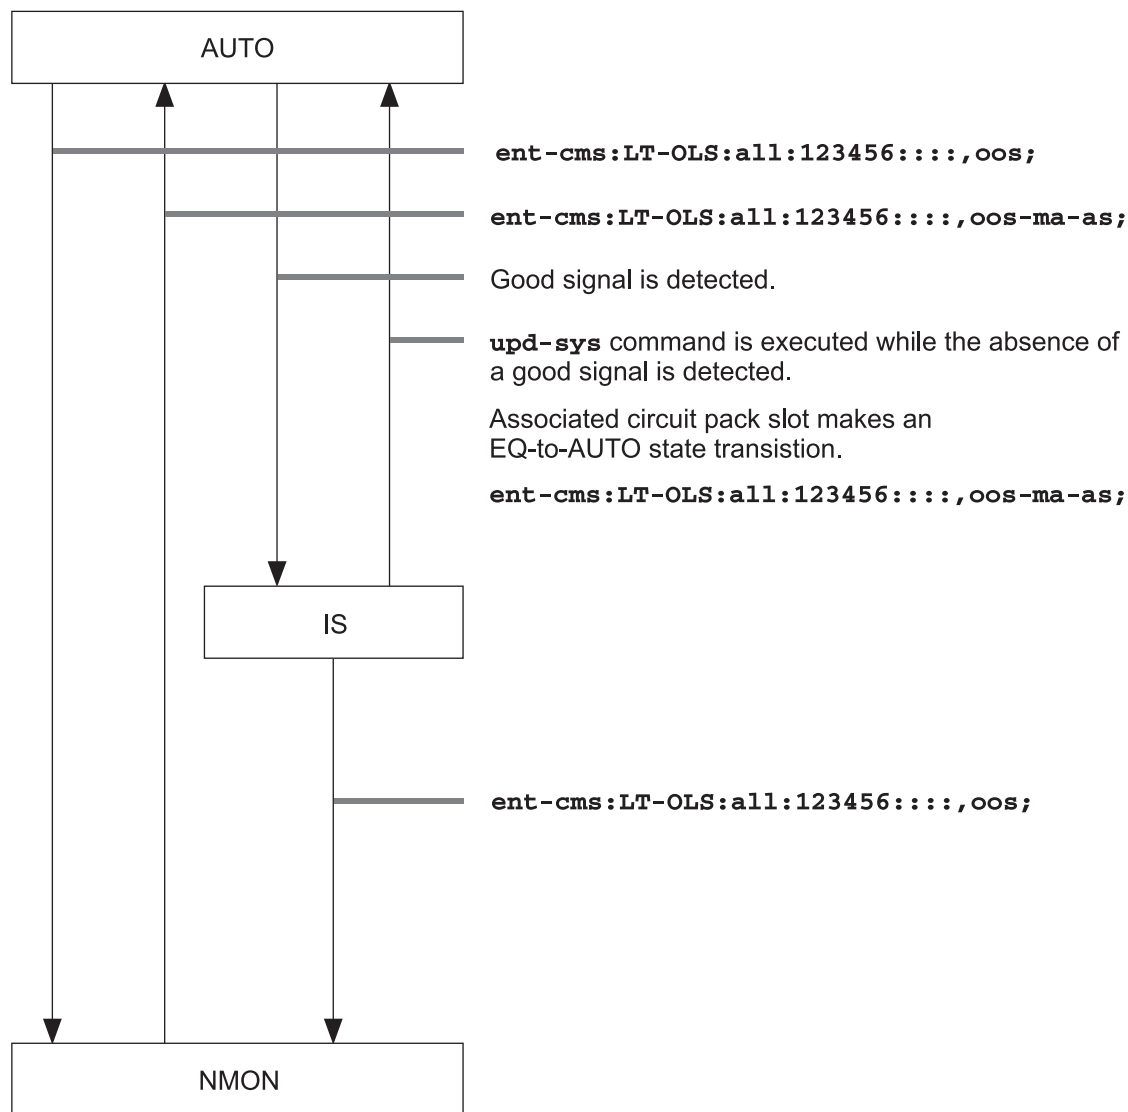

Figure C-1. Customer Maintenance Signal (CMS) Port States
■ Figure C-1: Customer Maintenance Signal Port States	C-3